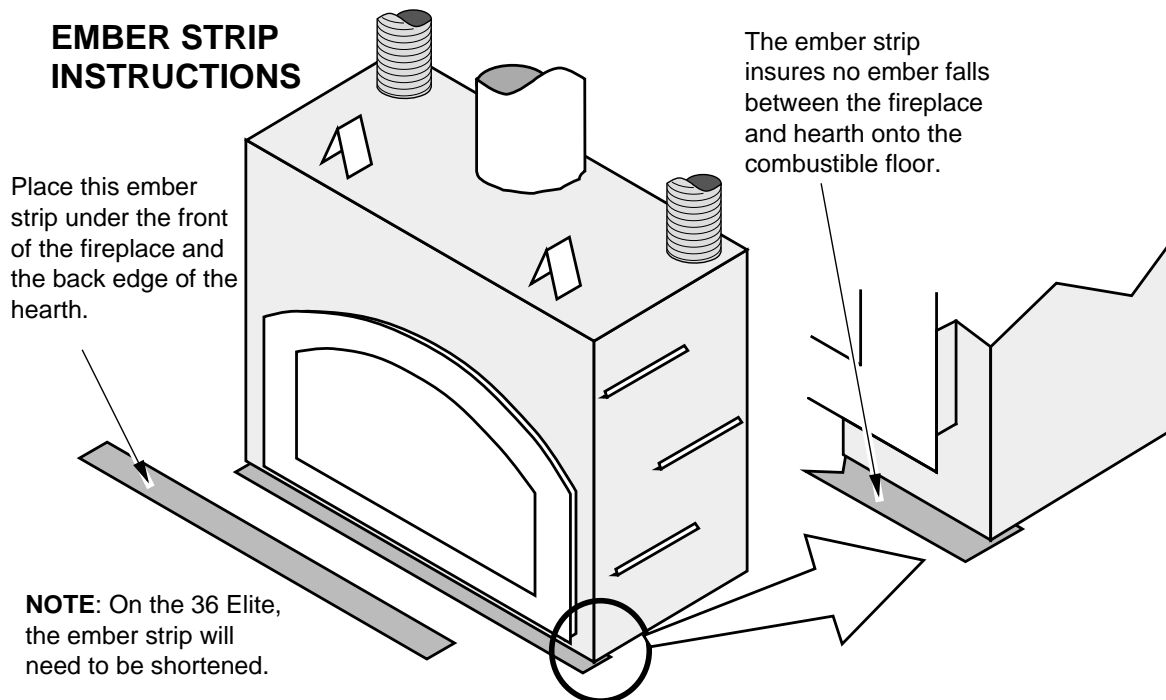

Figure 9
- Place the ember strip included with the fireplace below the front edge of the fireplace (see Figure 9).